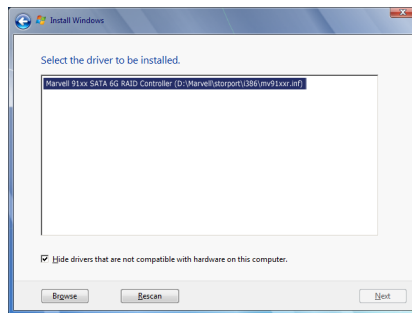

Figure 1
When a screen as shown in Figure 1 appears, select **Marvell 91xx SATA 6G RAID Controller (D:\Marvell\storport\i386\m91xx.inf)** and click **Next** to load the driver and continue the OS installation
- 2: From your optical drive folder, double click the **Menu.exe** file in the **BootDrv** folder. A Command Prompt window will open similar to that in Figure 1.